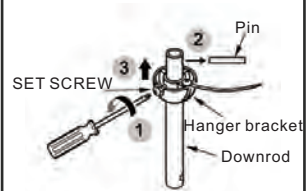

Fig.7
Step 2: Remove hanger ball from downrod assembly. (Fig.7)